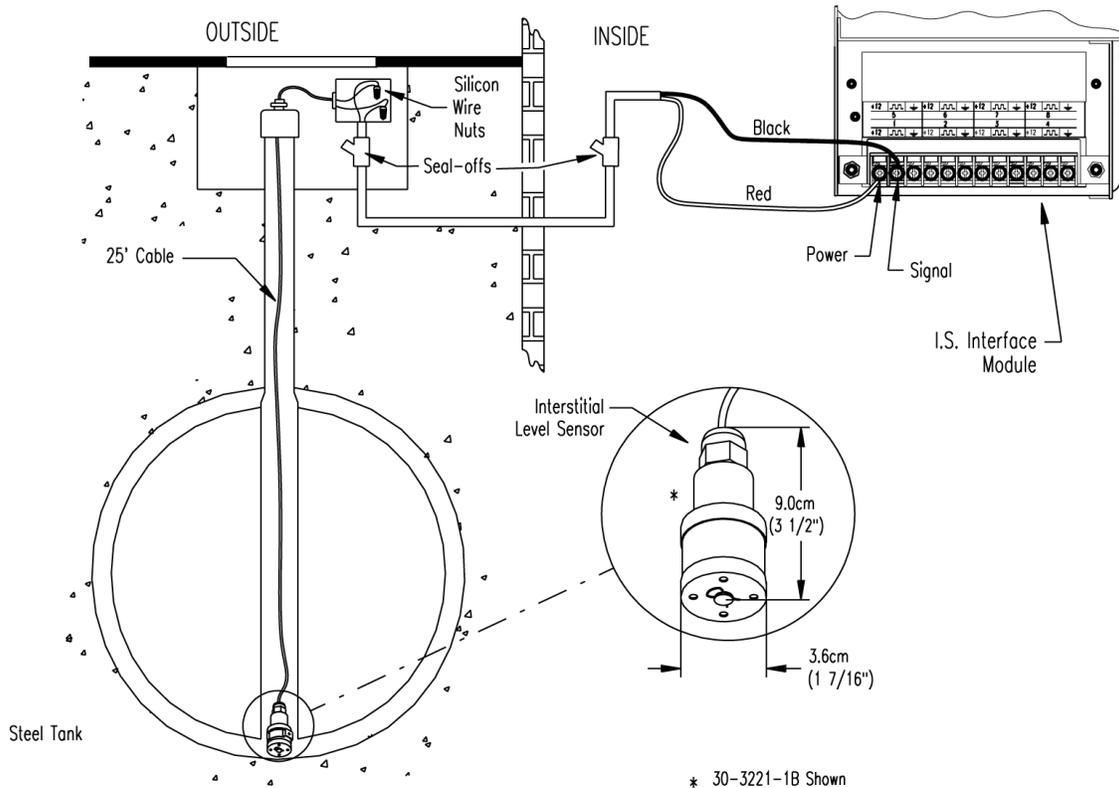

Figure 13-15 Interstitial Level Sensor Installation
- Review Figure 13-15 on page 60.